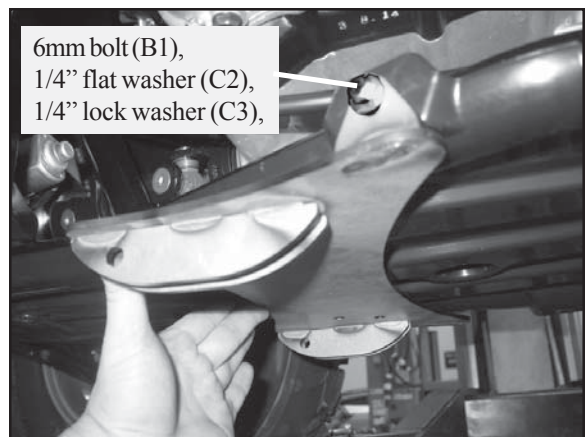

Figure 4 Attach Plow Mount
3. Attach a 6mm dia-18mm long bolt (B1), 1/4" flat washer (C2), and 1/4" lock washer (C3) through the rear tabs in the Plow Mount (A1) and into the vehicle chassis as shown in Figure 4. **Do not tighten the fasteners just yet**, you will do this later in the installation.